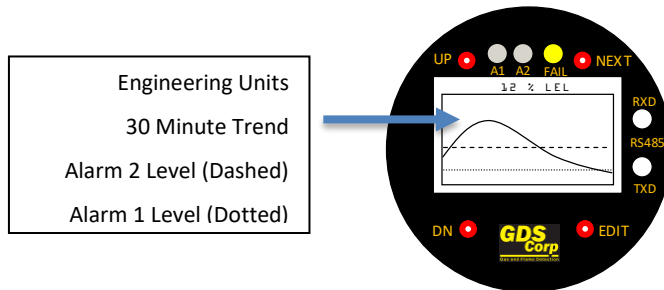

Figure 4-6: GASMAX Trend Display
Typical MODBUS wiring is shown in Figure 4-6. MODBUS system architecture requires that the devices in any MODBUS loop be connected in a daisy-chain layout. This minimizes signal reflections and improves signal noise margin. A MODBUS Termination Jumper installs a load resistor across the MODBUS signal lines and should only be set to “A” (ON) **at the last device in the string**.
GASMAX II monitors with remote-mount toxic sensors are shipped in two pieces and sensor wiring must be installed by the end user. Remote toxic sensors connect to the Channel 1 Simple Sensor input on the **back of the Display Assembly** as shown in Figure 4-6.